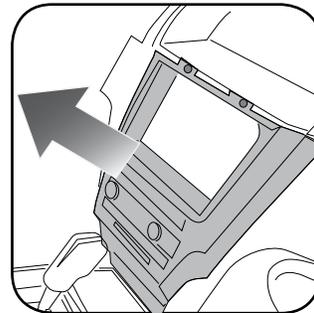

Fig. 1.5
5. Using a panel tool, pry outward to release the radio bezel from the dash, then unplug and remove it. (fig. 1.5)